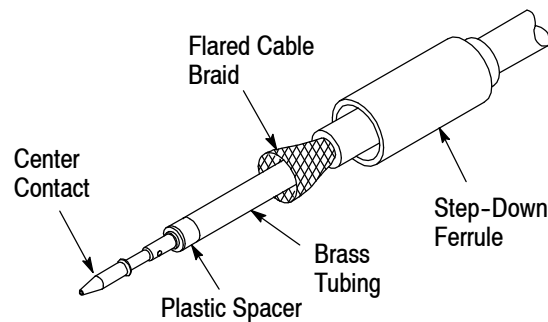

Figure 3
**NOTE** Refer to Figure 3 for orientation of step-down ferrule. For connectors supplied with spacer and tubing, slip tubing (flared end first), then spacer over the cable dielectric, as shown in Figure 3.